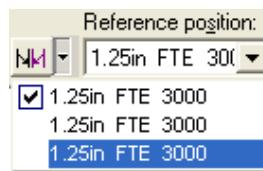

Figure 17: Branched Port Option in the Flip Drop-Down List
60. On the **Insert Component** ribbon, just before **Reference position**, there is a small drop-down arrow called the **Flip** drop-down list, where you can select the port to be used for the placement of a component. Click this arrow and select the third port, **1.25in FTE 3000**, as shown in Figure 17.